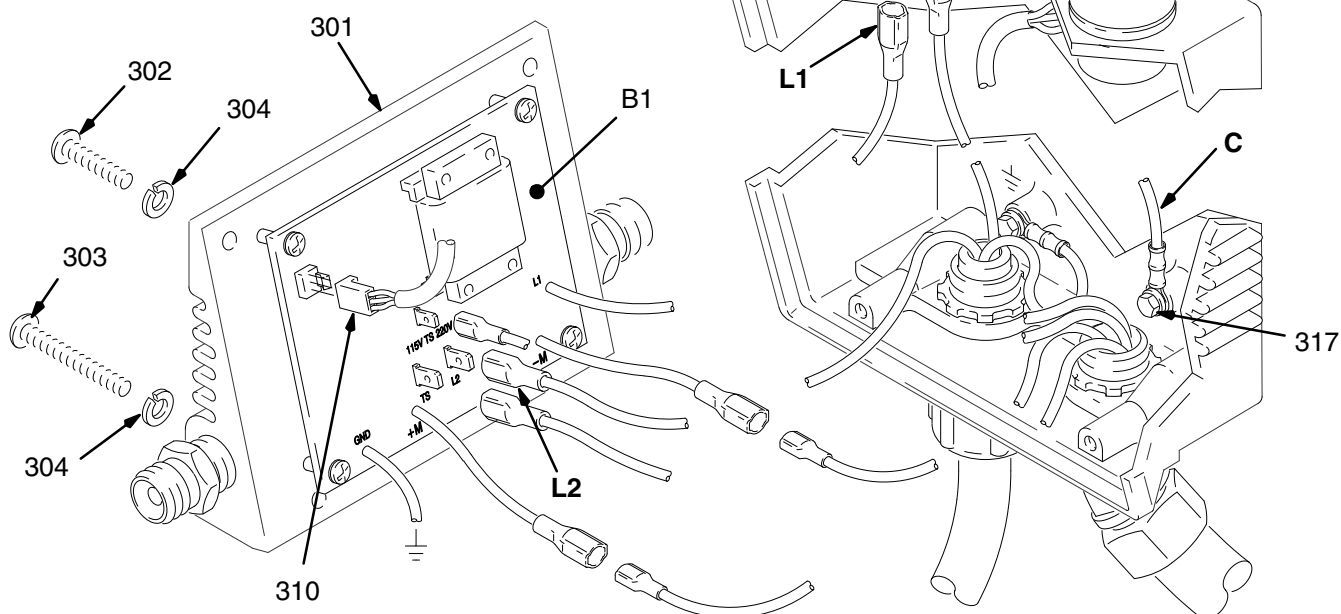

Fig. 18
3. Remove the four mounting screws and washers (302, 303, 304) from the pressure control board/cover (301). See Fig. 18.
4. Carefully remove the pressure control board/cover (301) so as not to stress the cables.
5. Remove the potentiometer cable (310) from the pressure control board/cover (301).
7. Disconnect the red motor leads from the TS terminals on the pressure control board/cover (301).
9. Disconnect the white power lead (L2) from the power cord (314) to the pressure control board/cover (301).
10. Loosen the ground terminal screw (317) and disconnect the ground lead (C).